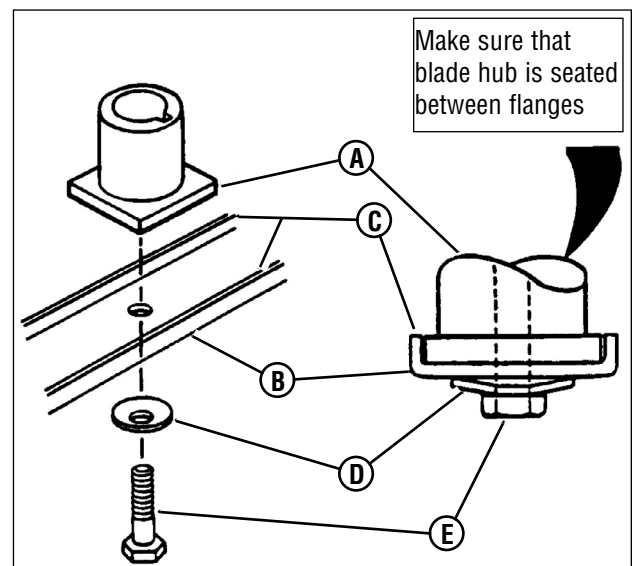

Figure 22: Removing the mower blade
3. Remove the blade (**B**, **Figure 22**).
- Reinstall blade (**B**, **Figure 22**). Note the correct assembly order: